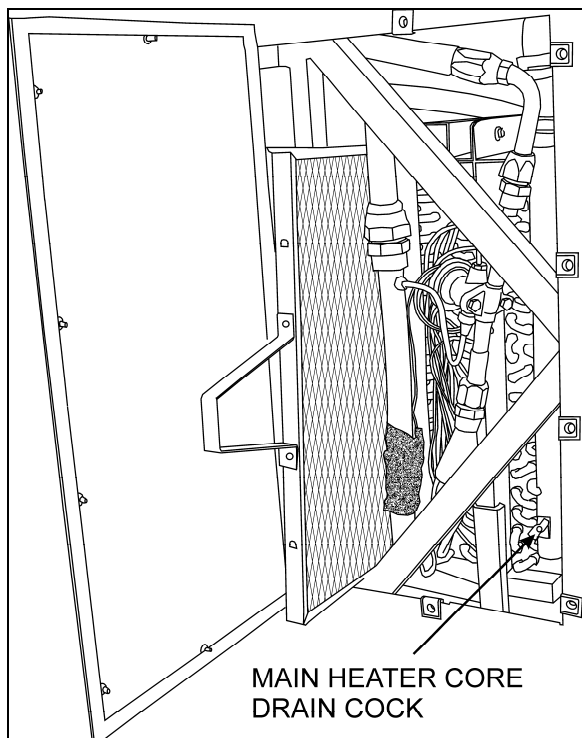

FIGURE 40: EVAPORATOR COMPARTMENT
4. Open drain cock in bottom of heater core, you can unfasten a hose connection on top of heater core (Fig.40) in order to allow air to enter while draining.
Whenever the heating system has been drained and refilled, or the system has run low on coolant and coolant has been added, it is necessary to bleed air from heating system. Locate the manual vent illustrated in Figure 40, and open momentarily until no air escapes from the line.